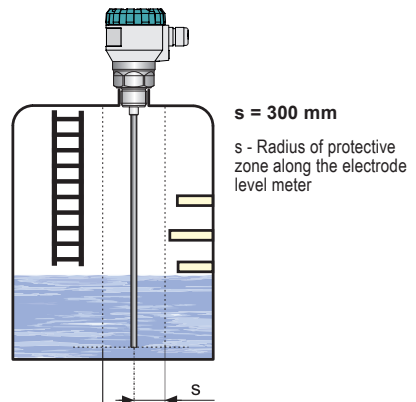

Fig. 12: Level meter installation outside obstacles in the tank
- The level meter generates an electromagnetic guided wave, which creates an electromagnetic field along the electrode. Objects placed close to the electrode disturb the electromagnetic field and thus affect the measurement. Therefore, it is determined a protective zone along the electrode of radius 300 mm. The level meter is recommended to install the tank so that the items placed inside the tank (ladders, various partitions, mixers, etc.) do not intervene into the protective zone, see Fig. 12.